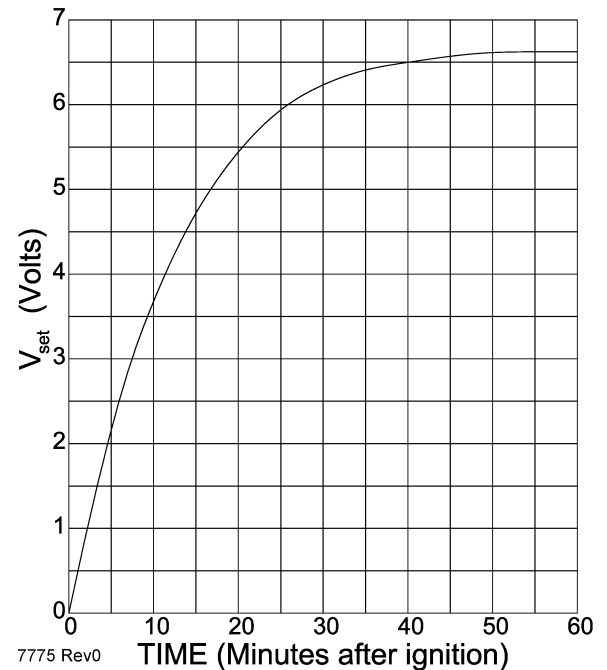

Figure 11 V_{set} Versus Time
The heat up characteristic of the TEG is shown in Figure 11, which gives V_{set} as a function of time after ignition. This curve is for a TEG set at the fuel pressure that produces rated power. During this heat up period, measure the V_{set} and record it as item 2 on the start up data sheet at the time intervals specified. To monitor progress during heat up, compare your measurements with those shown in Figure 11.